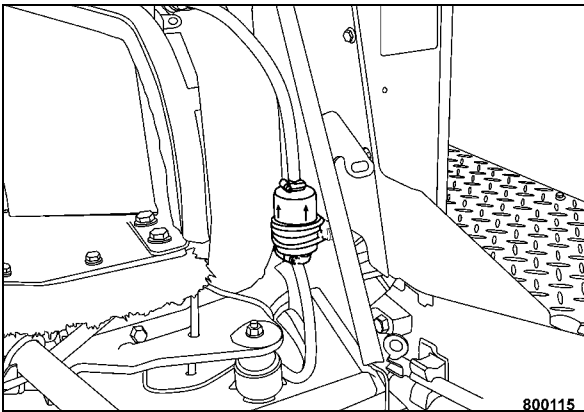

Fig. 82
- Loosen the hose clamps (Fig. 82).